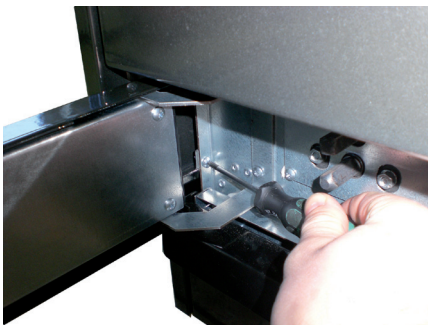

Figure 7
- ⇒ Open the ash door panel and slacken the mounting screw of the base panel (Figure 7), adjust to the required stove recess position (5 – 6.5 cm) and retighten the screws.